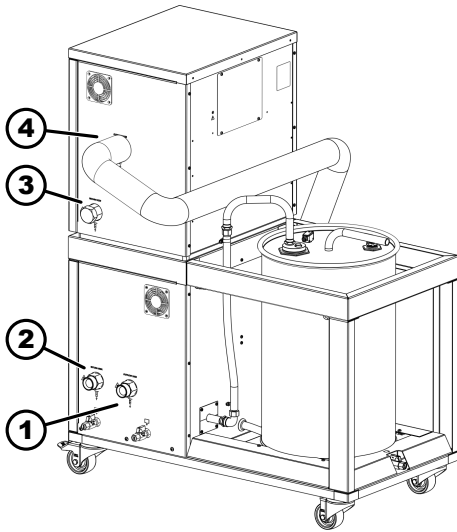

Fig. 10: Assembly on the application side
3. Screw the RETURN USER sleeve (3, Fig. 10) tight using a union nut and an inserted closing plug.
Screw the long pipe to the OUTFLOW USER sleeve (4, Fig. 10) on the Flow controller.
- 8. Align the devices between the application and the constant temperature equipment accordingly. The sleeves on the Flow controller and Filling and draining unit labeled RETURN USER and OUTFLOW USER must face in the direction of the application (Fig. 10).
- 9. Connect two hoses from the Filling and draining unit to your application. The two sleeves are marked OUTFLOW USER and RETURN USER (1 and 2, Fig. 10).
- 11. Screw the other end onto the T-extender of the Filling and draining unit (5, Fig. 10).